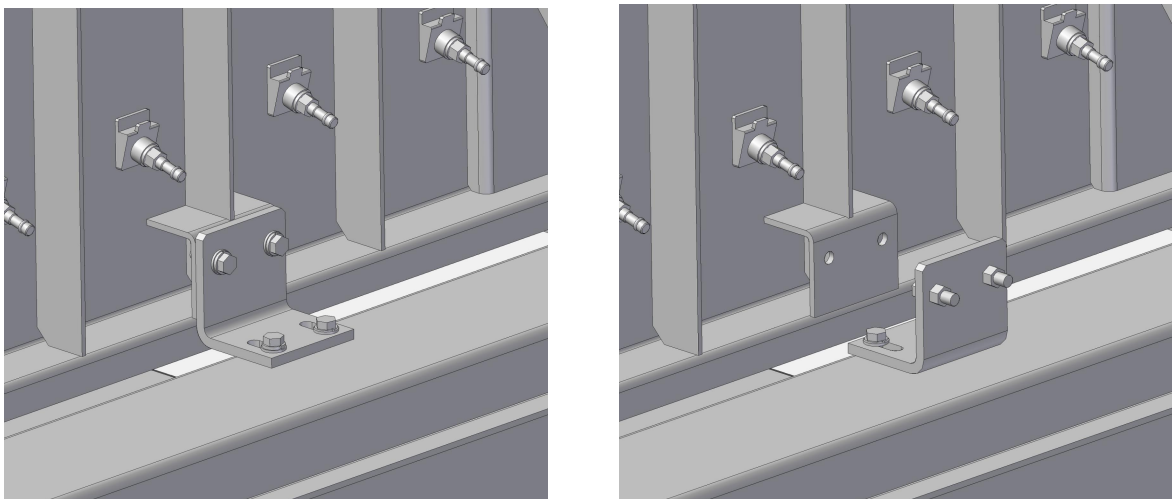

Figure 5
E Remove the fixing block for the screen box, rotate the block to a degree of 180 before fixing it on the base to avoid loss, as shown in Figure 5.
A. Adjust the screen box dip to zero and use a special fixing block to fix the box before transport, as shown in Figure 5;